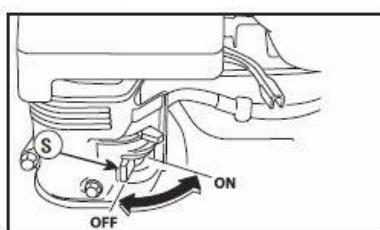

Fig. 12
6. Move fuel valve lever (S) to "On" position. (See Fig. 12)
4. Move fuel valve lever (S) to "Off" position. (See *Fig. 12*)